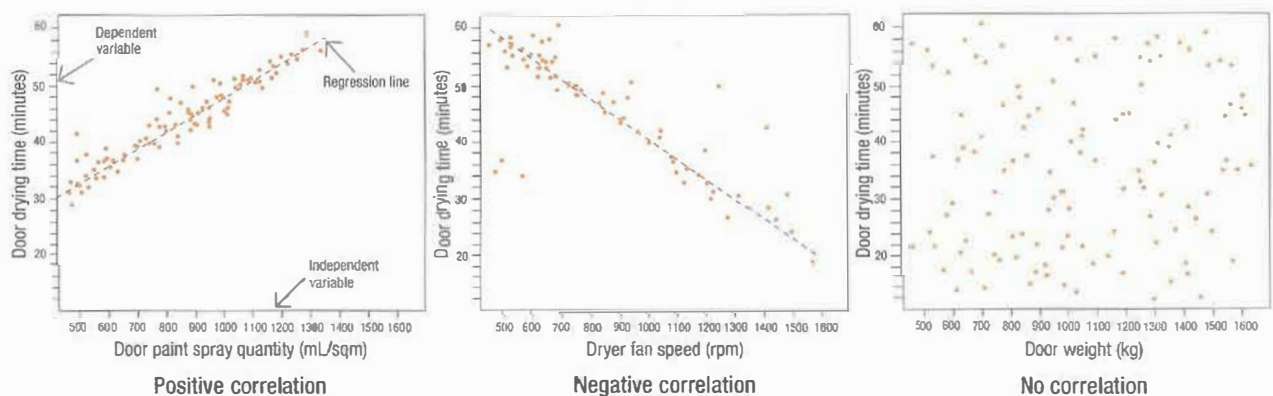

FIGURE 10.8 Scatter diagram
This diagram tracks two variables to determine their relationship to the quality of the results. Figure 10.8 shows three examples of scatter diagrams.
A regression line (or trend line) is calculated to show the correlation of variables, which can then be used for estimating and forecasting. Figure 10.8 depicts the possible resulting patterns: a proportional or positive correlation of paint quantity to drying time, an inverse or negative correlation of dryer fan speed to drying time, and no correlation between door weight and drying time.
- **Scatter diagrams** A scatter diagram can be used to control quality by comparing actual results to what was anticipated, and to estimate and forecast future outcomes based on this comparison. For review, look back to figure 10.8 and its accompanying description in the Manage Quality section.